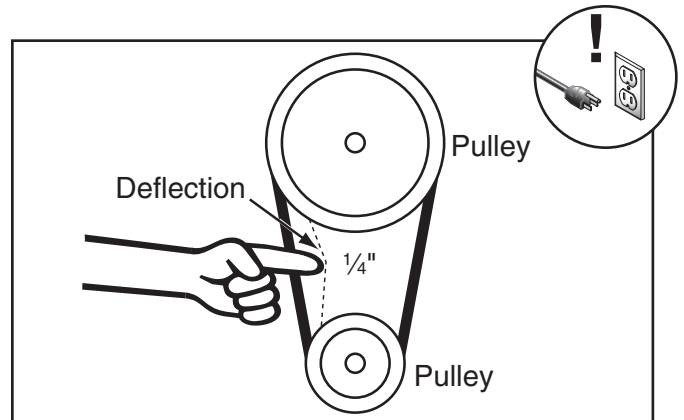

Figure 95. Correct V-belt deflection.
The V-belt is correctly tensioned when there is approximately ¼" deflection when it is pushed with moderate pressure, as shown in **Figure 95**.
2. Lower the motor and re-tighten the mounting hex nuts. The *high range* V-belt is correctly tensioned when there is approximately $\frac{1}{4}$ " deflection when it is pushed with moderate pressure, as shown in **Figure 95** on **Page 63**.